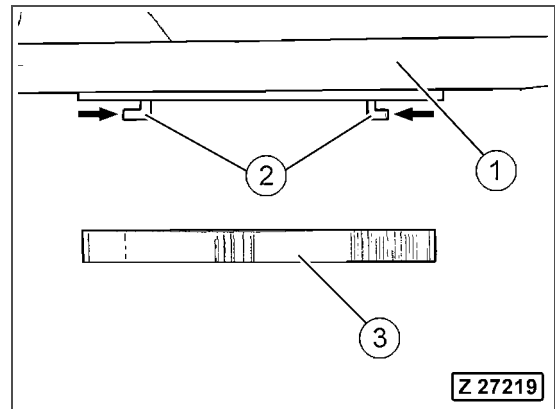

Fig. 3-272
14. Assemble the slew circle (Fig. 3-272, Pos. 3) at the superstructure platform (Fig. 3-272, Pos. 1) according to the PARTS & SERVICE NEWS No. "AH00511".